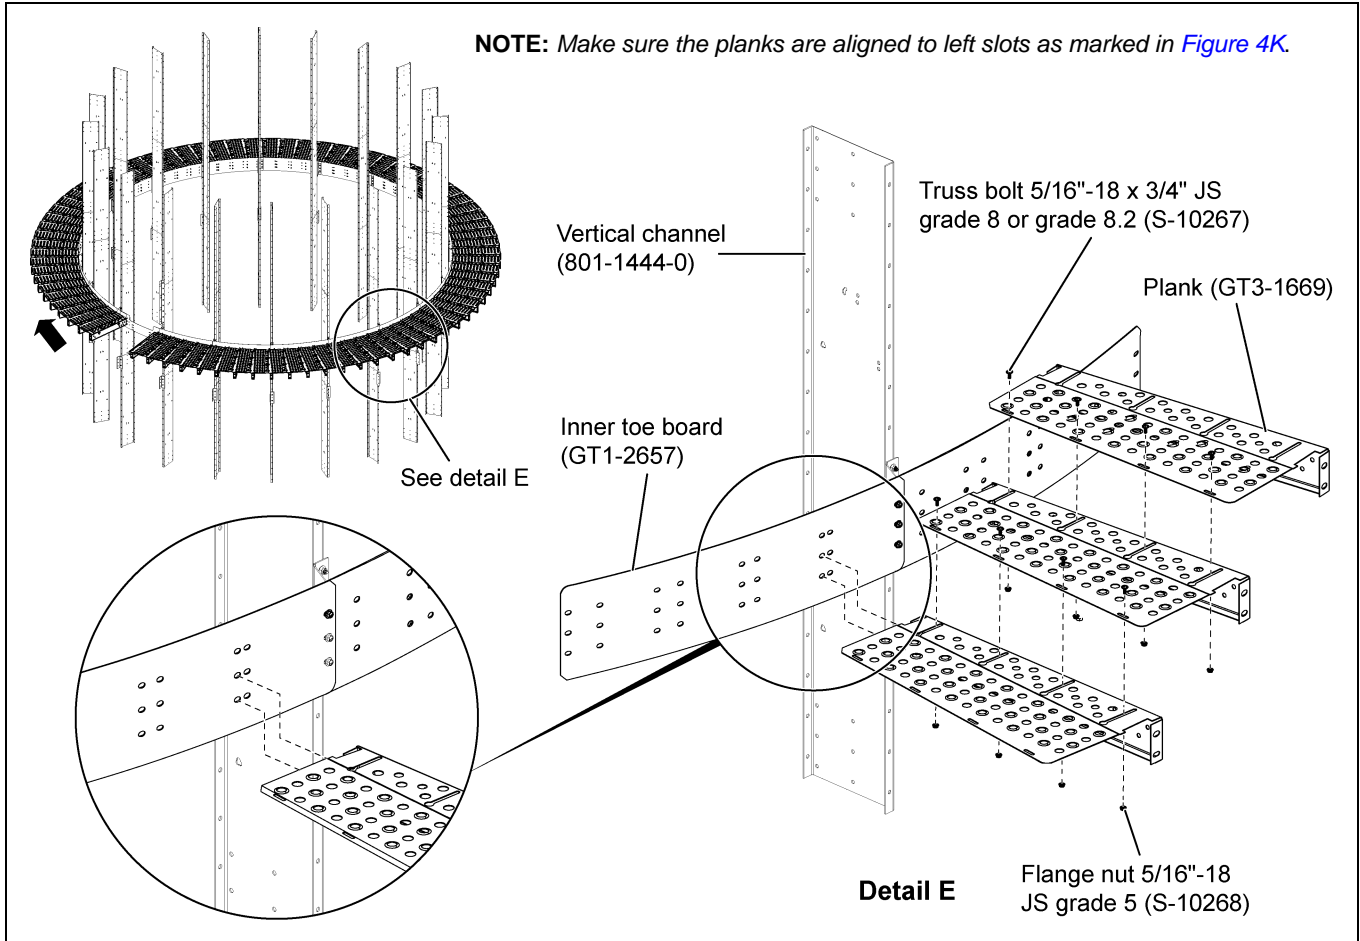

Figure 4J
1. Install planks (GT3-1669) around the dryer on inner toe board (GT1-2657) starting from ladder opening toe board (GT1-2659) as shown by arrow in the Figure 4J.
2. Planks (GT3-1669) are installed to bottom two (2) holes of the inner toe board (GT1-2657) using 3/8"-16 x 1" JS grade 8 or grade 8.2 bolts (S-7485) and 3/8"-16 ZN grade 5 nuts (S-968). (See Figure 4J.)